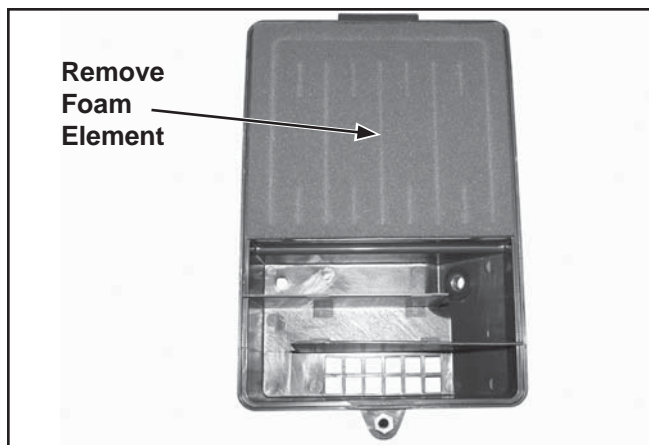

Figure 4-8. Remove Foam Element.
2. Remove the foam element from the air cleaner base. See Figure 4-8.